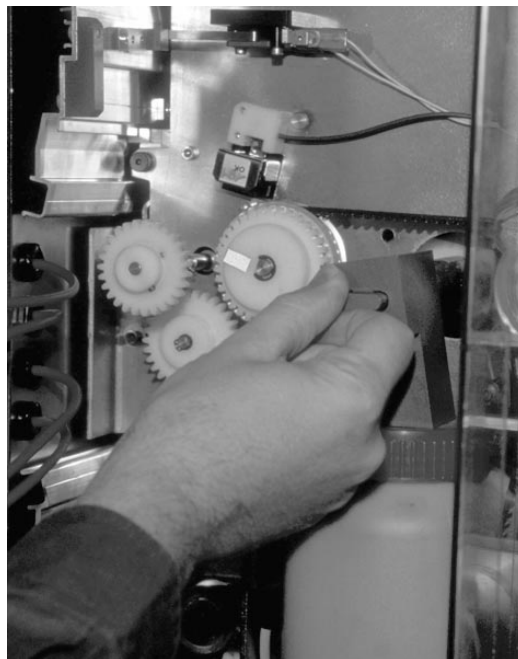

Figure 286. Rotating the Waste Bottle Handle
- Remove the waste bottle by rotating the handle on the waste outlet counter-clockwise to a horizontal position, as shown in Figure 286.